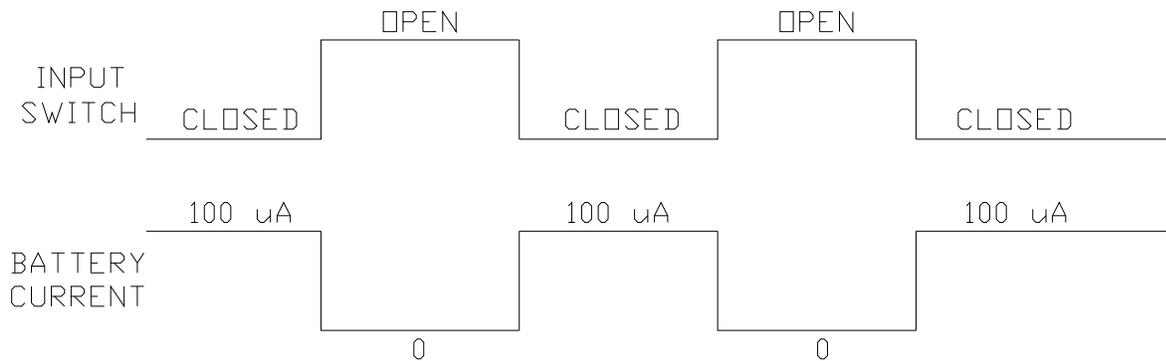
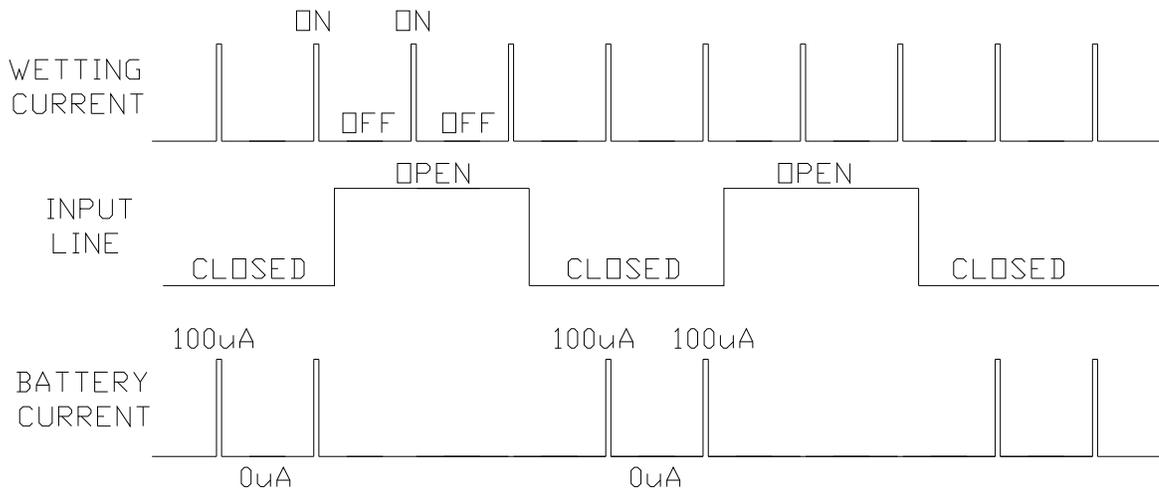

Figure-1
Figure-6
In order for a switch event to be recognized a small amount of current must pass through the switch contacts. This is called “wetting current” and is 100 μA (0.0001A) *per input*. Current is only consumed when the switch closes, as shown in Figure-1.
The “duty cycle” is the ratio of the amount of time the switch is in one state versus the amount of time it’s in both states. Figure-1 shows a 50% duty cycle. Assuming all 8 inputs are like this, a total of 3.5 A/hr of battery capacity will be consumed each year (100 μA x 8 switches x 50% duty cycle x 24 hours per day x 365 days per year).
The wetting current is really only needed during the time that the SIP-CB is sampling the inputs. Otherwise it can be turned off to conserve power. This is illustrated in Figure-6. Now instead of each input drawing 100 μ A for 50% of the time (as was seen in Figure-1), it is only drawing it in very short bursts, perhaps 5% of the time.
Specifying a wetting current pulse width of 0 turns the wetting current on full time, as was illustrated back in Figure-1. There are a few reasons to do this:
- For best accuracy set the sample rate so that there are at least 2 samples within the shortest part of the input signal. See Figure-1 for a good example.